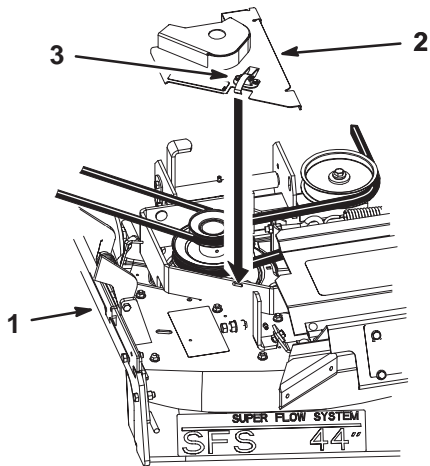

Figure 16
13. Install the belt cover over the pulley assembly and secure the 3 cover latches into the blower (Fig. 16).
14. For 44 inch (112 cm) mowers, install the new belt cover over the pulley assembly and secure the latch (Fig. 16).